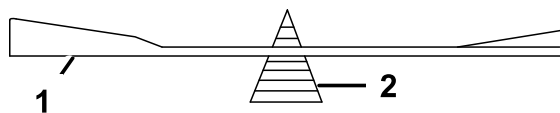

Figure 76
2. Check the balance of the blade by putting it on a blade balancer (Figure 76).
Note: If the blade is not balanced, file some metal off the end of the sail area only (Figure 76).